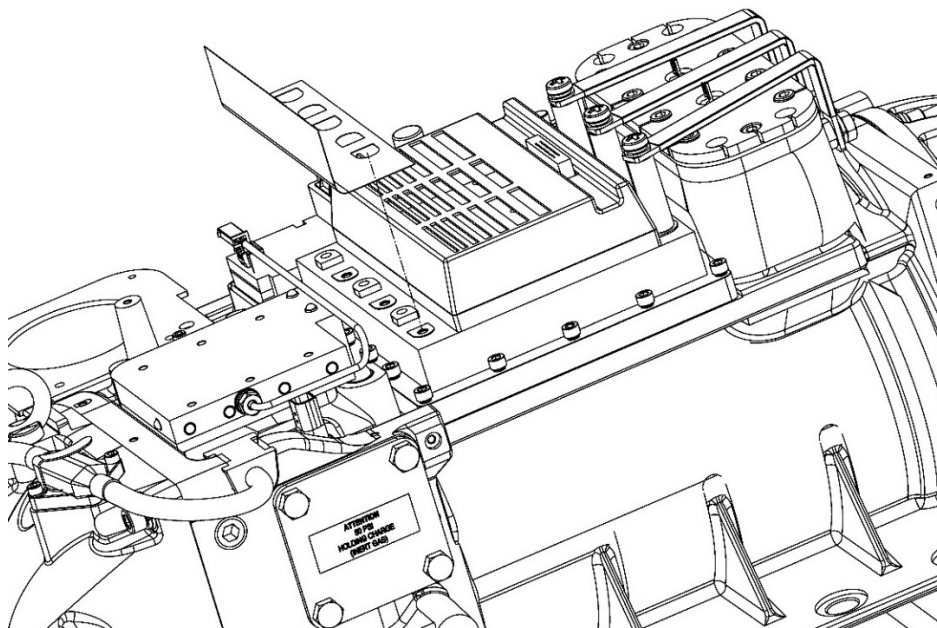

Figure 14 – Capacitor Mylar Removal
26. Remove the insulating Mylar from the Inverter. Refer to Figure 14 (Capacitor Mylar Removal).